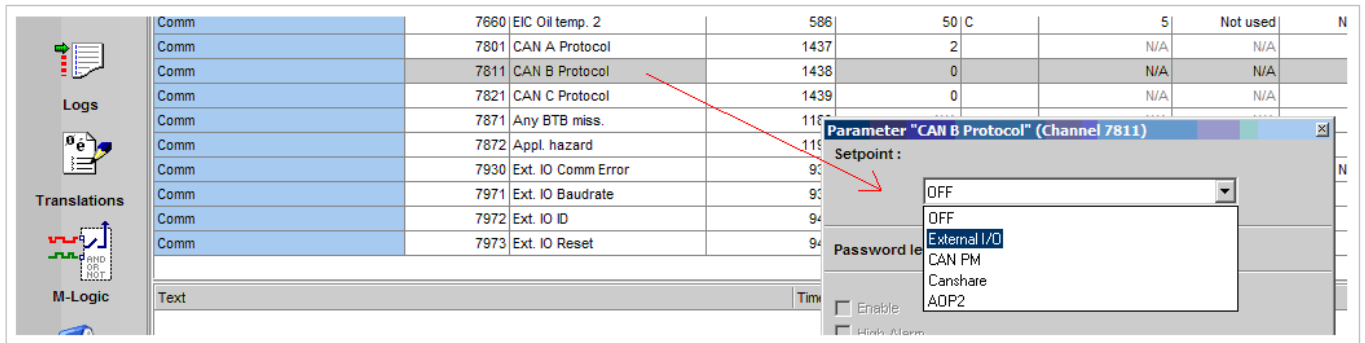

FIG.6
15. A window will open as shown in FIG.6. Select External I/O from the drop down list and Write the parameter to the device.